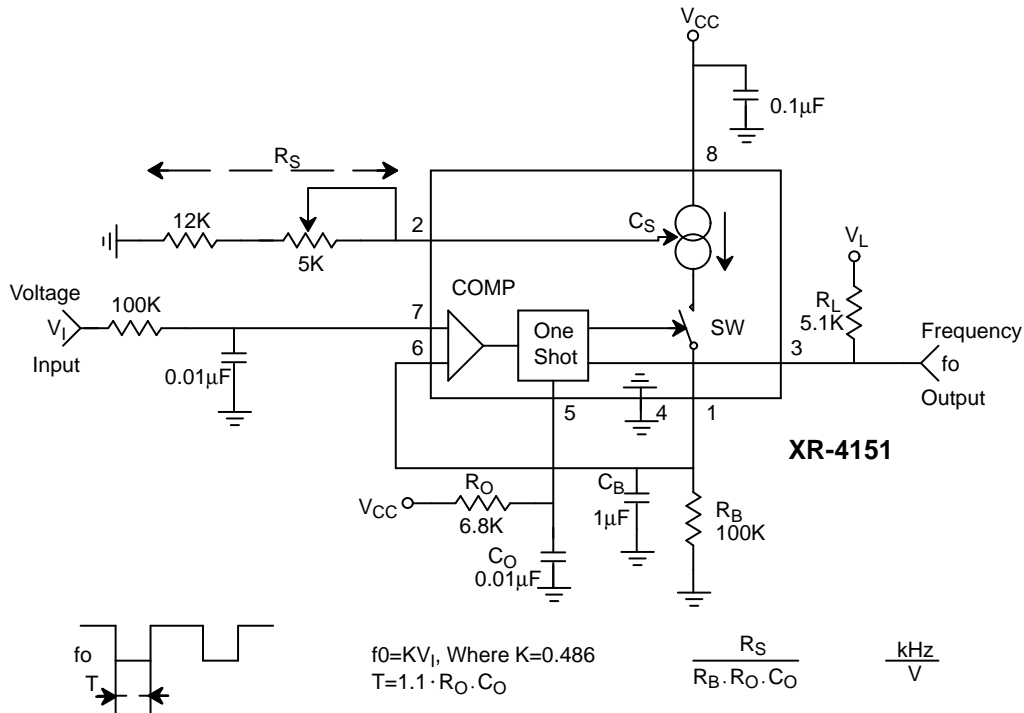
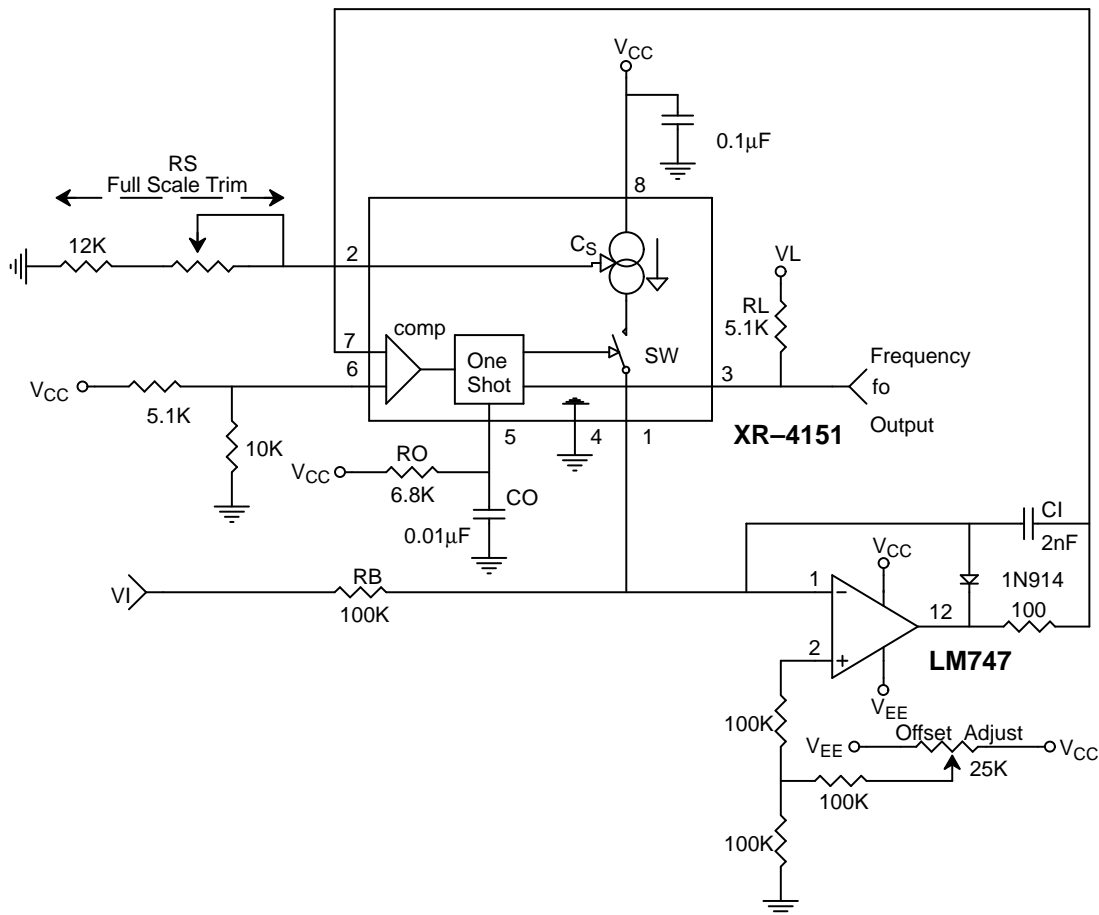

Figure 2. Voltage-to-Frequency Converter
Figure 3. Precision Voltage to Frequency Converter
In this application, the XR-4151 functions as a stand alone voltage-to-frequency converter operating on a single positive power supply. Refer to the functional block diagram and *Figure 2*, the circuit connection for single supply voltage-to-frequency conversion. The XR-4151 contains a voltage comparator, a one-shot, and a
Figure 2 shows the simplest type of VFC that can be made with the XR-4151. The input voltage range is from 0 to +10V, and the output frequency is from 0 to 10kHz. The full scale frequency can be tuned by adjusting R_S , the output current set resistor. This circuit has the advantage of being simple and low in cost, but it suffers from inaccuracy due to a number of error sources. Linearity error is typically 1%. A frequency offset will also be
introduced by the input comparator offset voltage. Also, response time for this circuit is limited by the passive integration network $R_B C_B$. For the component values shown in Figure 2, response time for a step change input from 0 to +10V will be 135msec. For applications which require fast response time and high accuracy, use the circuit of Figure 3.
In this application (*Figure 3*) the XR-4151 is used with an operational amplifier integrator to provide typical linearity of 0.05% over the range of 0 to -10V. Offset is adjustable to zero. Unlike many VFC designs which lose linearity below 10mV, this circuit retains linearity over the full range of input voltage, all the way to 0V.
The operational amplifier integrator improves linearity of this circuit over that of *Figure 2* by holding the output of the source, Pin 1, at a constant 0V. Therefore, the linearity
4. Avoid stray coupling between pins 5 and 7; it could cause false triggering. For the circuit of *Figure 2*, bypass pin 7 to ground with at least $0.01\mu\text{F}$. This is necessary for operation above 10kHz.
1. Set $R_S = 14k\Omega$ or use a 12K resistor and 5K pot as shown in the figures. (The only exception to this is *Figure 3*)
3. a) For the circuit of *Figure 2* make $C_B = 10^{-2} [1/fo]$ Farads.
4. a) For the circuit of *Figure 3* keep the values of R_B as shown and use an input attenuator to give the desired full scale input voltage.
- b) For the precision mode circuit of *Figure 3*, set $R_B = V_{IO}/100\mu A$ where V_{IO} is the full scale input voltage.